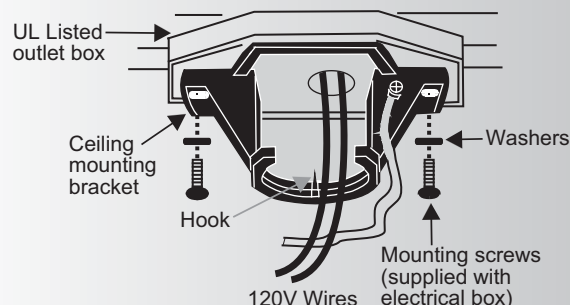

Fig. 5
Step 1. Pass the 120 volt supply wires from the ceiling outlet box through the center of the ceiling mounting bracket. (Fig. 5)
Step 2. Attach the ceiling mounting bracket to the outlet box using the screws and washers included with the outlet box. (Fig. 5)